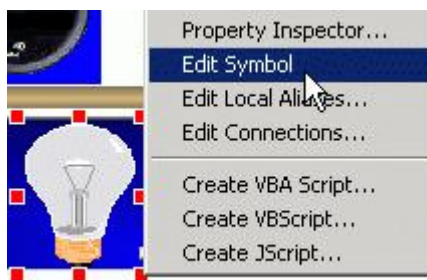

Figure 5.24. Editing a Symbol
1. First, in **Configuration** mode, right-click on the light bulb and select **Edit Symbol** from the pop-up menu, as shown in **Figure 5.24**.